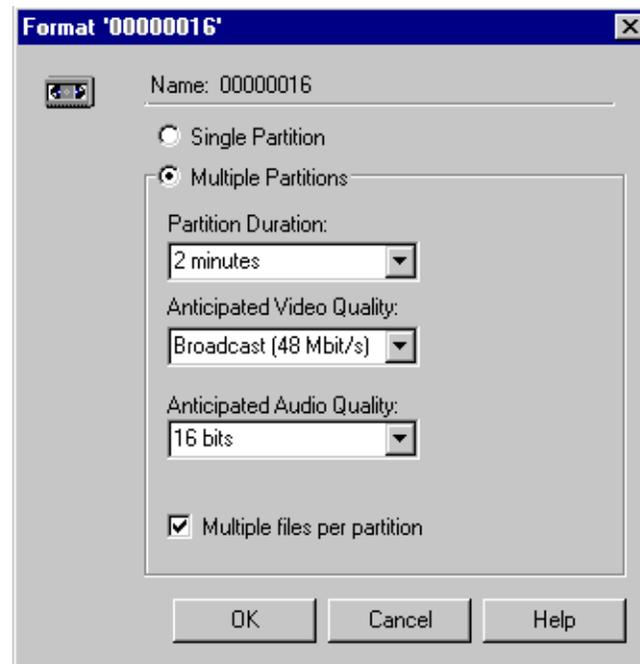
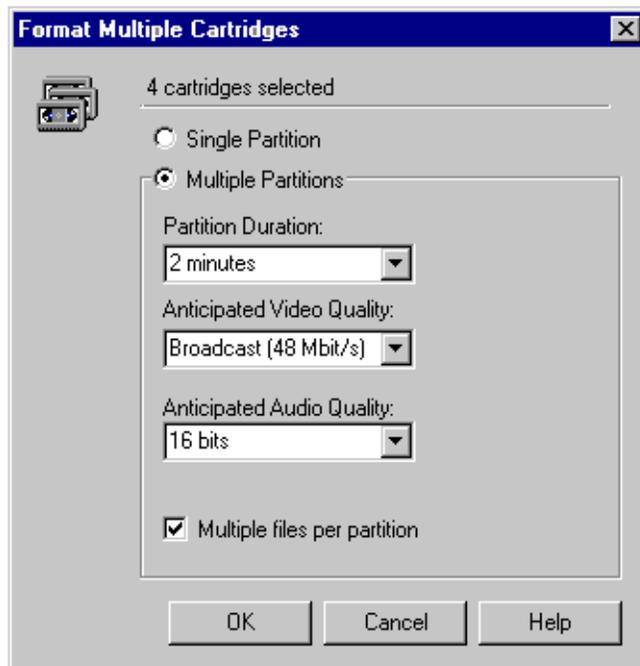

Figure 61. Format Cartridge dialog box
Figure 62. Format Cartridge dialog box
2. Choose **Format** from the **File** menu or from the shortcut menu with a right-click. The Format dialog box appears (see Figure 61). The Name field shows the name or names of the cartridges to be formatted. If more than one cartridge is selected, the number of cartridges is shown (see Figure 62).